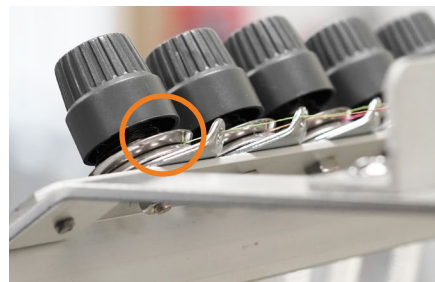

Figure 21
2. Next, pass the thread through the small eyelet located behind the first tension knob. Position the thread to the right side of the top tension knob in between the tension disks, making sure the thread is inside the tab at the 3 o'clock position. To ensure you've completed this step correctly, make sure the metal plates on the tension knob are touching after you've positioned the thread. **See Figure 21.**